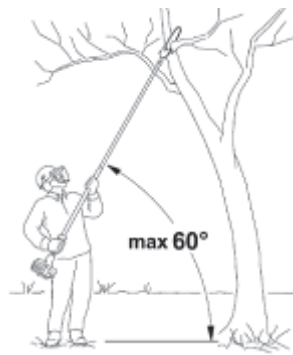

Fig. 28
3. Always hold the product at an angle of not more than 60° from the horizontal level. Otherwise safe operation is not possible (Fig. 28).